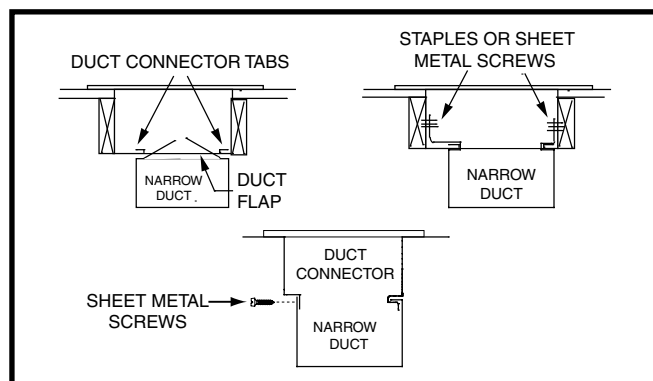

Figure 11. Narrow Ducts
- Bend the tabs on the bottom of the duct connector upwards and as tight as possible against the supply air duct. See Figure 11 (page 10).